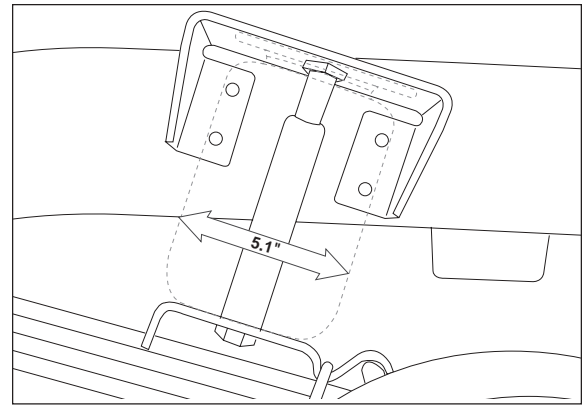

Figure 9
3. The air spring will expand to 5.1" in diameter at maximum inflation pressure. Check horizontally along the shaft of the installation tool for sufficient clearance of 2.50" clearance all around the tool (Figure 9). Be sure to check and adjust any fasteners coming through the frame from the inboard side.